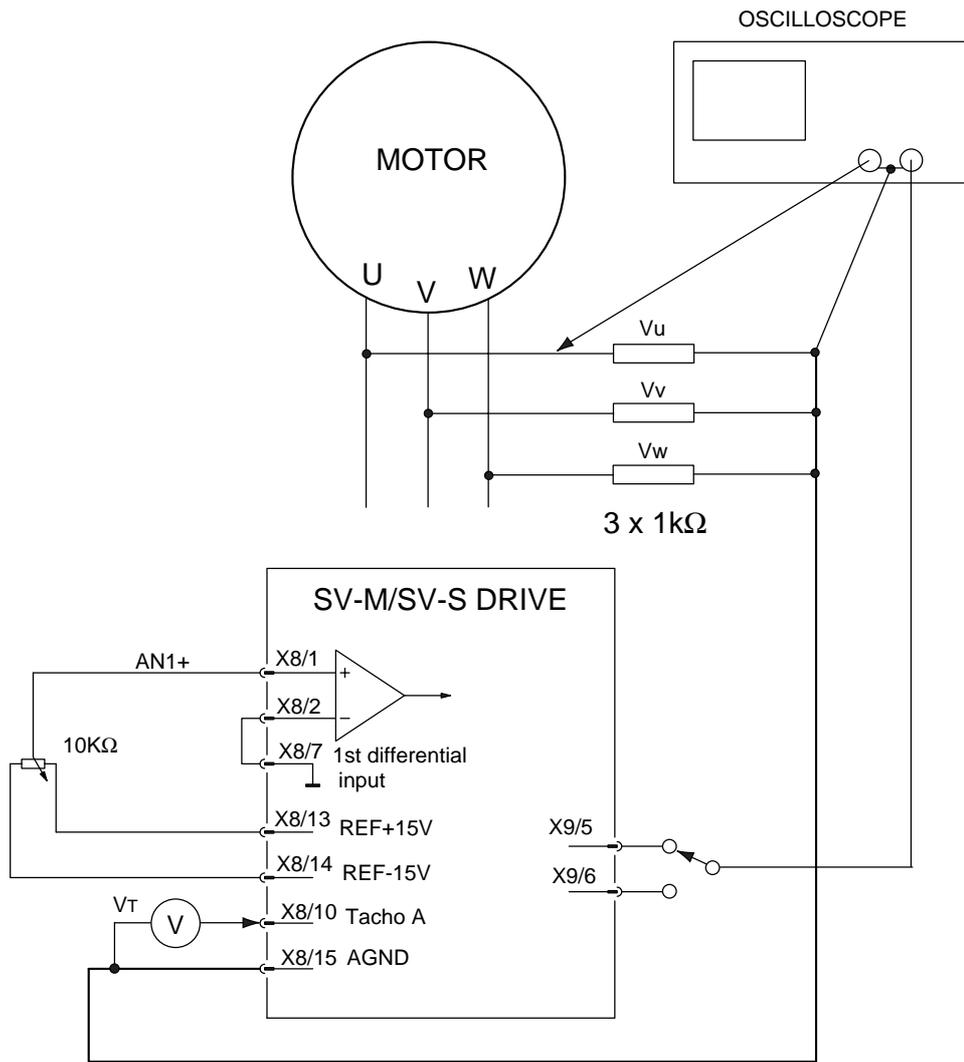

Figure C-1. Resolver Alignment Test Circuit
2. Connect three 1k , 1W resistors to each motor phase winding as shown in Figure C-1.